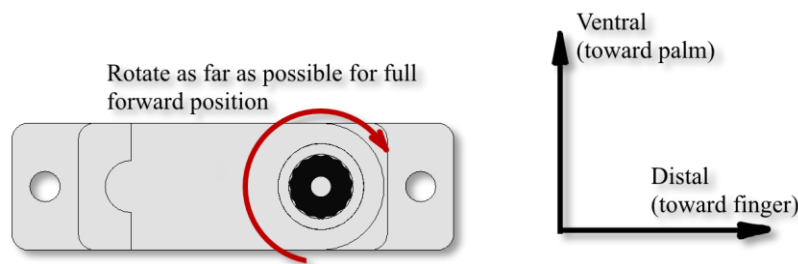
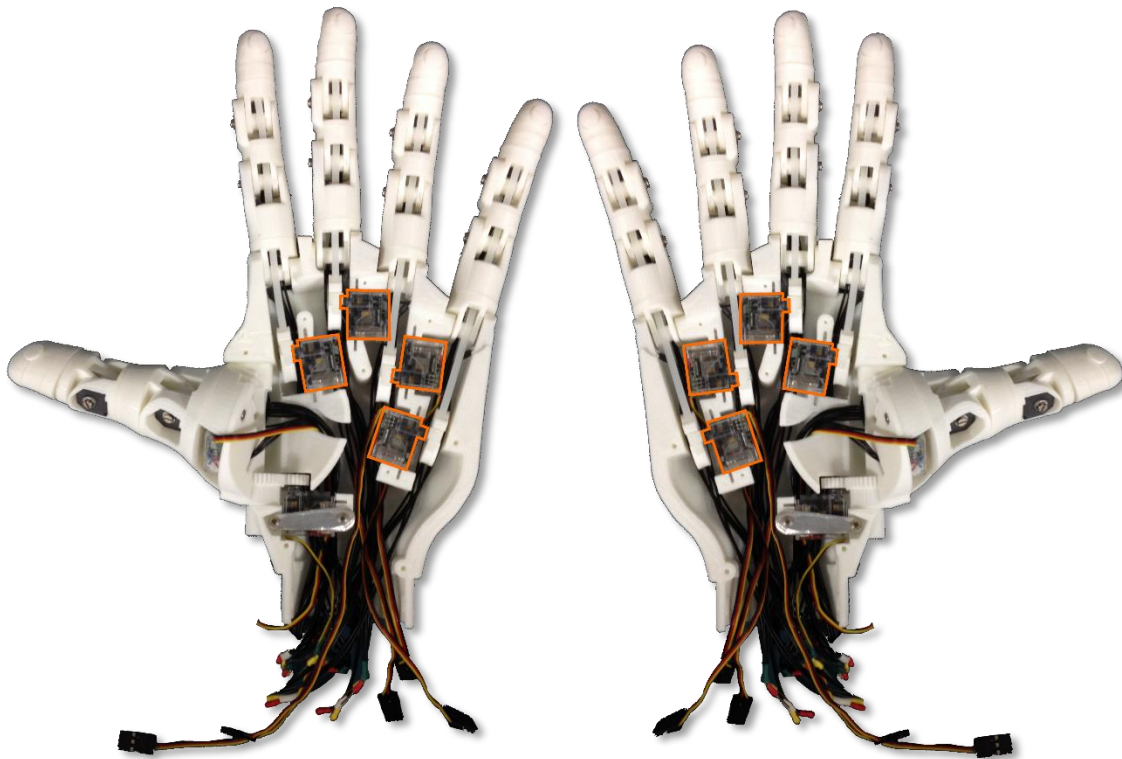

Figure 15: Full Forward Position of servo
Figure 19: Servo installation and finger tensioning complete, showing servo positions for right and left hand
1. Rotate servo to the full forward position using the Arduino sketch Pot\_to\_Servo\_Control.ino. Wiring for this sketch is explained in section 13.1 . See Figure 15 for the definition of full forward position. Servo orientation matters for this operation, and changes depending on the finger in question. Refer to Figure 19 for correct servo positioning.
6. Pass the tendon zip-tie through the zip-tie receiver on the servo spool (or through the spool itself in the case of the thumb spool). There should be no slack in the zip-tie when the finger is fully extended, the servo is fully rotated forward, and the servo is installed in the dorsal palm. Trim the free end of the tendon zip-tie. Figure 19 shows the completed tensioning and servo installation.